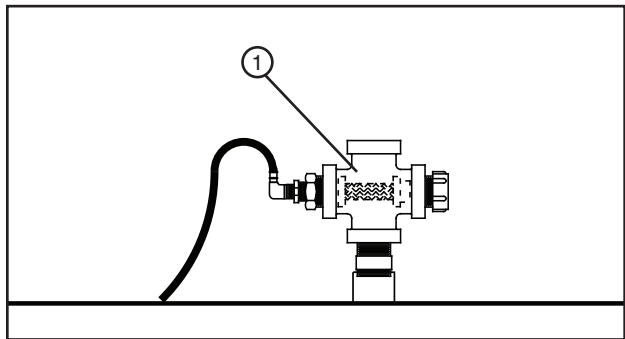

Figure 92-2 1. Cross Filter
- Clean the end gun shut off solenoid valve cross filter or optional dirty water filter. See figures 92-2 and 92-3.